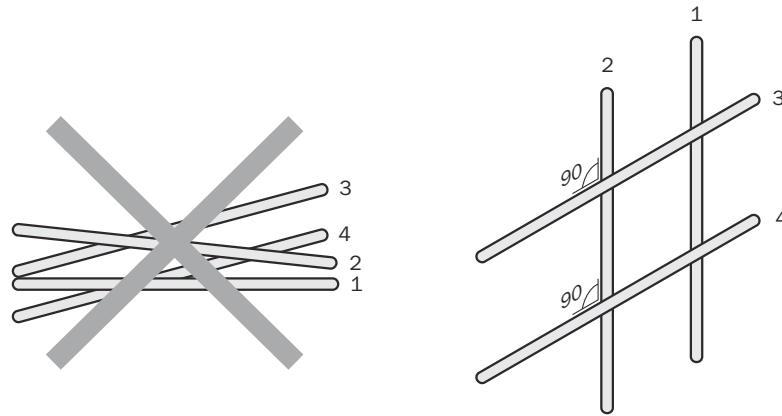

Figure 8: Cross cables at right angles
- ▶ Cables in groups 1, 2 and 3, 4 must be crossed at right angles (see figure 8).